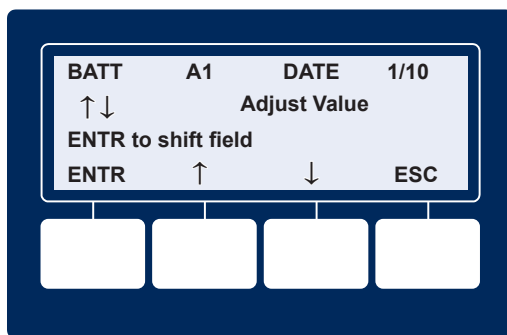

Fig. 2-25, Enter Battery Date Code
20. Enter the battery DATE code and the MHOs (conductance) readings. Battery date and MHOs entries can be made on the LCD (see Figs. 2-25 and 2-26).